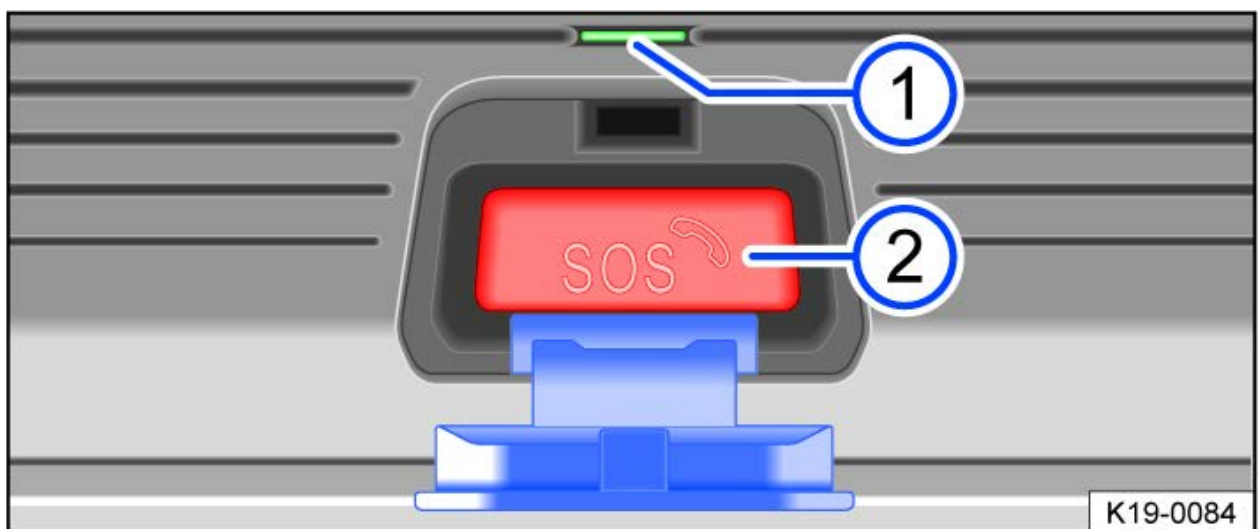

Fig. 3 Emergency call control: Indicator light and button.
There is an indicator light → *fig. 3* ① in the control. The indicator light turns on in different colors and light patterns depending on the operating status:
— Press the → *fig. 3*  emergency call button until the green indicator light starts to flash. The emergency call will be triggered and a voice call will be made to the Volkswagen emergency call center.
A call will automatically be made to the Volkswagen emergency call center immediately after the airbags or safety belt pretensioners deploy. The automatic emergency call **cannot** be stopped by pressing the emergency call button → *fig. 3* .